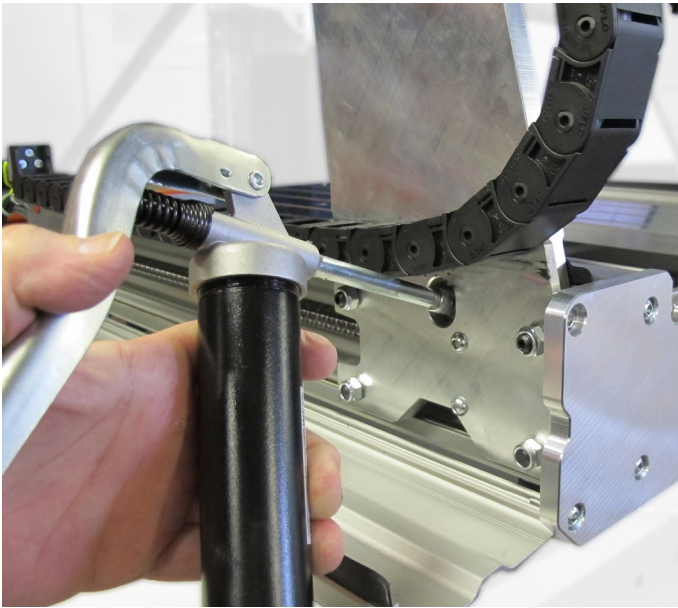

Fig. 45: Lubricating the Y axis - left side.
- Lubricate the Y axis spindle nuts as shown in Figs. 45 and 46. The position of the grease nipples can vary.